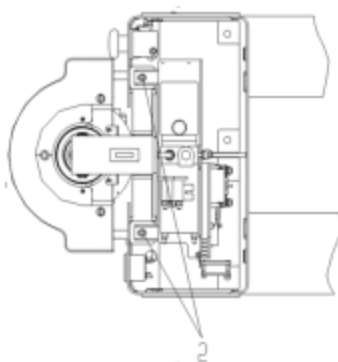

Fig.8
- (Fig 8) Loose screw5, ensure that the battery is compressed by the integration seat ;